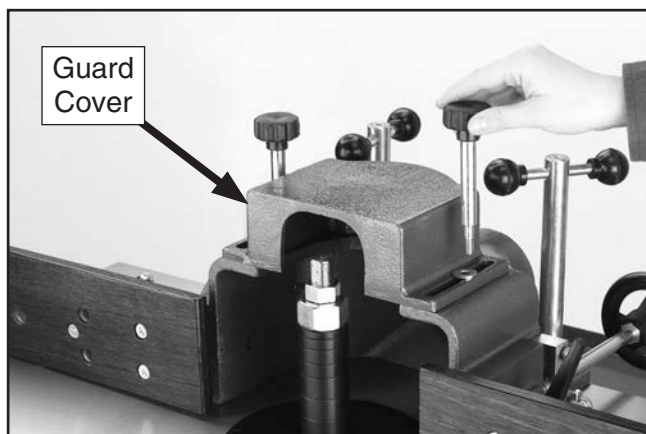

Figure 19. Installing the cutter guard cover.
1. Place the cutter guard cover over the threaded holes in the top of the cutter guard, as shown in **Figure 19**.